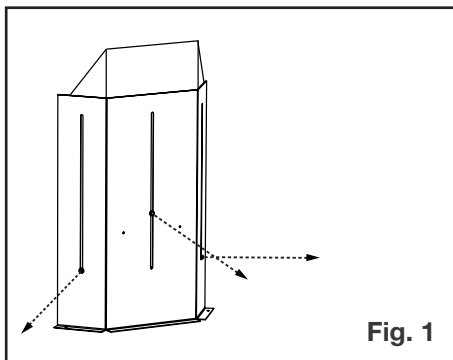

Fig. 1
1. Unscrew the fasteners on the vent shield assembly. **DO NOT DISCARD FASTENERS (Figure 1).**